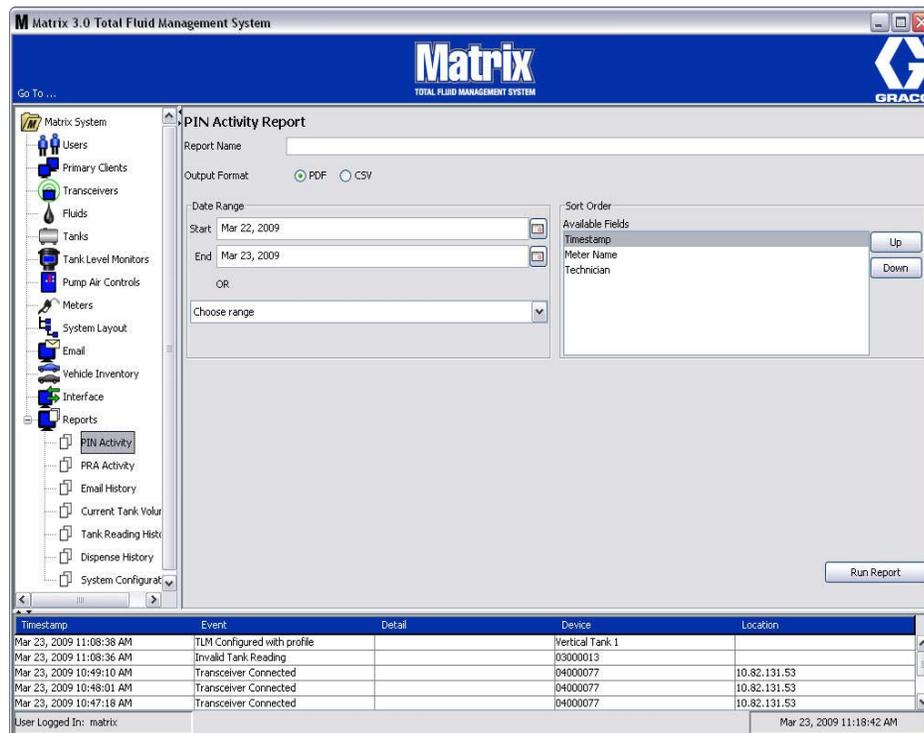

FIG. 212
- **PIN Activity (Fig. 212):**